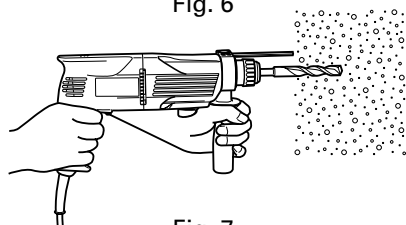

Fig. 7
- (1) Mount the drill bit.
- (2) Pull the trigger switch after applying the drill bit tip to the drilling position (Fig. 7)
- (3) Pushing the rotary hammer forcibly is not necessary at all. Pushing slightly so that drill dust comes out gradually is just sufficient.
- **When the drill bit touches an iron reinforcing rod, the bit will stop immediately and the rotary hammer will react to revolve. Therefore please grip the side handle and handle tightly as shown in Fig. 7.**